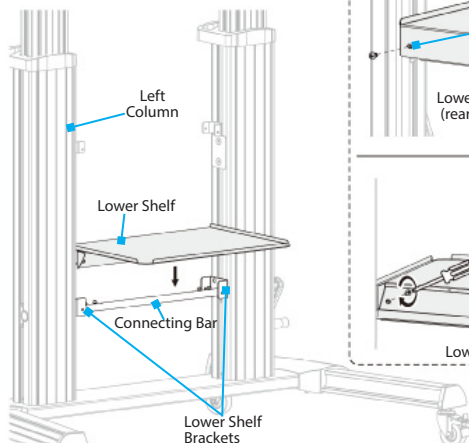

Figure 8a
3. Mount the **Lower Shelf** to the **Lower Shelf Brackets** using four **M6 x 8mm screws (A1)**. Note that there are four total mounting points. Tighten with a **Phillips Head Screwdriver**. (Figure 8a & 8b)